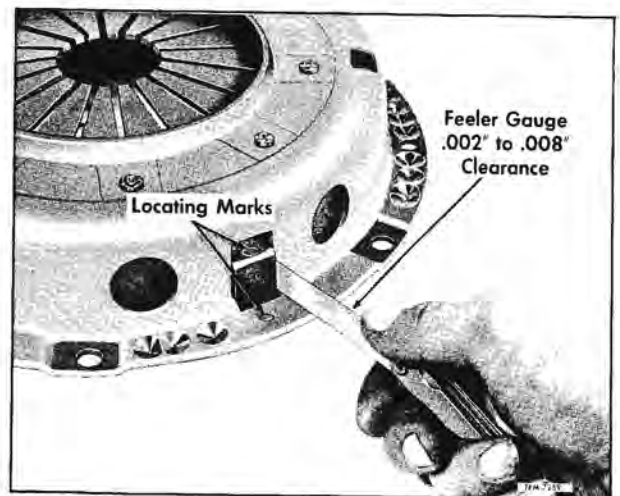
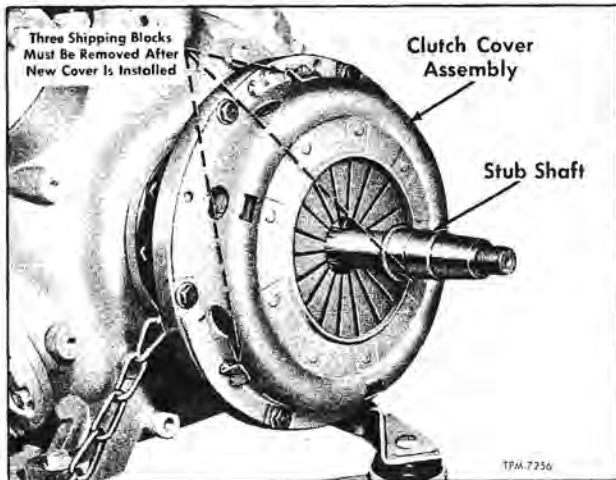

Figure 105—Clutch Cover To Plate Alignment Marks and Driving Lug Clearance Check
Figure 106—Using Stub Shaft To Align Clutch Components
**IMPORTANT:** If a new cover assembly was installed, pry three shipping blocks from around cover. Blocks are located as shown in figure 106.
of pressure plate (23) and mating slots in clutch cover (32) in manner shown in figure 105. If clearance is greater than .008", examine cover and lugs of pressure plate for wear and if necessary, replace worn parts.
If locating marks "O" on cover and pressure plate (fig. 105) are not visible, mark parts as shown. Remove pressure plate retracting spring bolts (30), remove springs (29), then separate pressure plate from cover.
1. Apply light coat of graphite grease on sides of pressure plate driving lugs; then install plate in cover, making sure balance mark "O" on cover (32) is matched with corresponding mark on pressure plate (33). Refer to figure 105.
2. Install three retracting springs (29) on pressure plate (33). There must not be any clearance between clutch spring and retracting spring when spring attaching screws are tight.
3. Making sure clutch wear friction surfaces are free of grease and dirt, set drive plate (34) in place against flywheel with extended portion of hub away from flywheel. While holding plate in place, move cover assembly (32) with pressure plate (33) into place against flywheel. Using a stub shaft as shown in figure 106 to align clutch drive plate, install cover attaching bolts (31) with lock washers alternately to compress clutch spring evenly and prevent possible distortion of cover flange. Remove stub shaft when all bolts are tightened to 40 lbs. torque. IMPORTANT: If a new cover assembly was installed, pry three shipping blocks from around cover. Blocks are located as shown in figure 106.